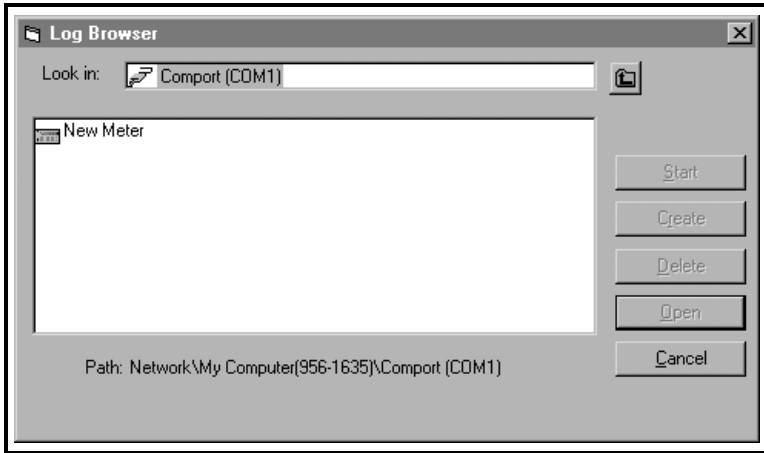

Figure 6-15: Meter Selection
- b. Double click on the *communication port name* to move to the network level shown in Figure 6-15 below.